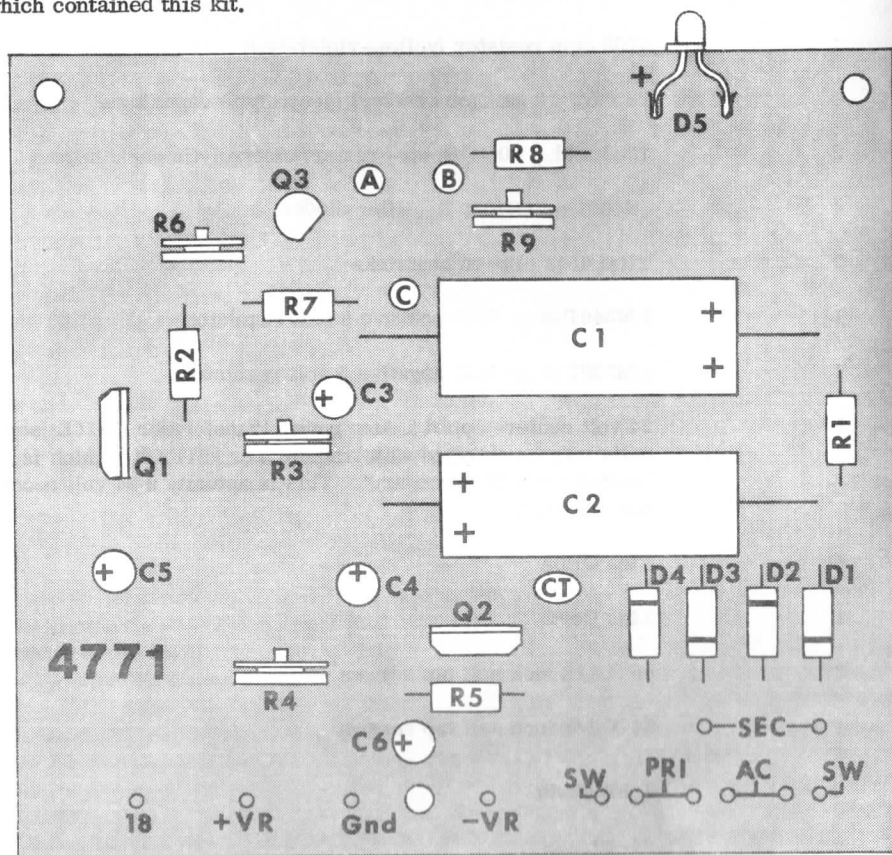

Figure 1 - Circuit board parts placement diagram
Solder each of the fixed resistors in place following the parts placement designators printed on the circuit board and the assembly drawing figure 1. Note that the fixed resistors are non-polarized and may be mounted with either of their leads in either of the holes provided. Insert both leads in the mounting holes and push the resistor FULLY against the board. On the conductor side of the board, bend the leads outward to about a 45 degree angle to help hold the component in place. AFTER SOLDERING, clip off each lead flush with the solder joint.
- () Install the LED. Note that, like other diodes, LEDs are very sensitive to heat. During the installation procedure, follow the heat sinking technique used earlier for transistors and diodes. Also note that the LED is polarized. The cathode, or negative lead of the diode, will be shorter than the positive lead, and/or will be adjacent to a small "flatted" spot on the side of the LED package. Before installing the LED in the flea clips, it will be necessary to form the LED leads. VERY CAREFULLY work the LED leads apart and bend as shown in figure 1. While working with the LED, note that the small plastic body is very fragile and can easily break if you are not careful to bend only the lead instead of just pushing the lead to one side. Do not put excessive stress on the LED body. When properly installed, the LED leads will be flush with the top of the flea clips, and when looking straight down on the LED/circuit board assembly, the rear edge of the LED case should be even with the front edge of the circuit board. Carefully solder in place. Trim excess leads after soldering.